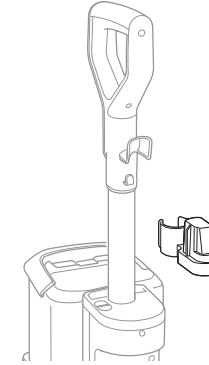

fig. 2
2. Clip the tool holder onto the handle (**fig. 2**).